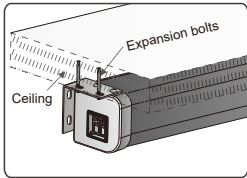

Figure 8
3. Put the bolts through the installation brackets and fix the screen in the ceiling (Figure 8 - 9).